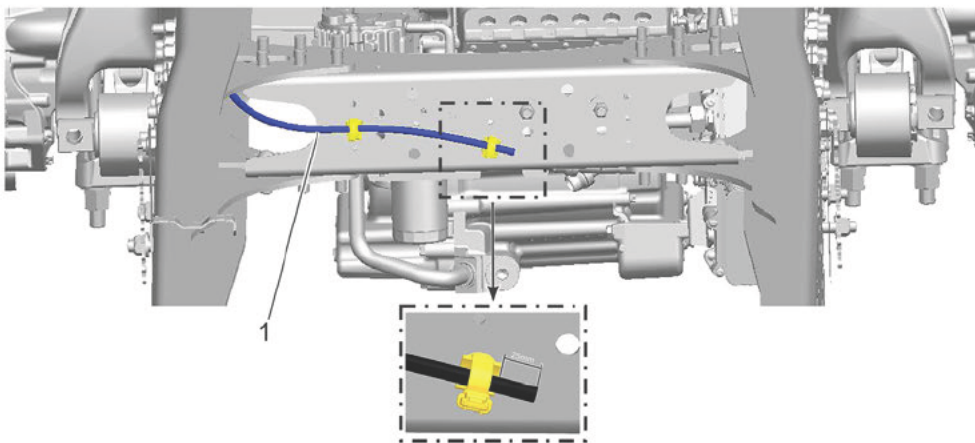

Fig. 3, Trimming Breather Lines to Fit
6. Trim the breather hose to fit, leaving approximately 1 inch (25 mm) of hose extending beyond the fir tree clip as shown in Fig. 3.